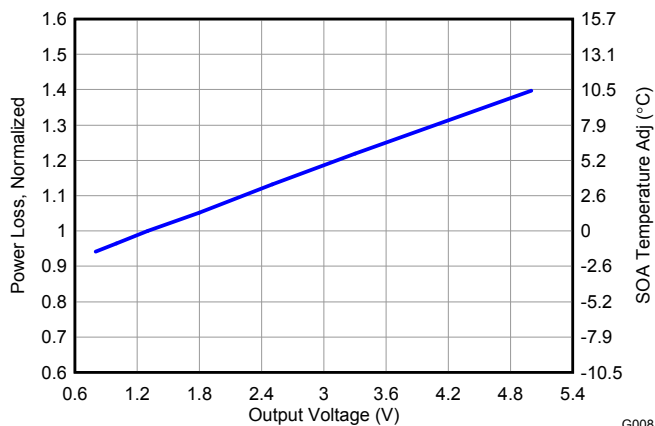

Figure 8. Normalized Power Loss vs. Output Voltage
- Normalized Power Loss for output voltage  $\approx 0.98$  (Figure 8)
- SOA adjustment for output voltage  $\approx -0.29^\circ\text{C}$  (Figure 8)